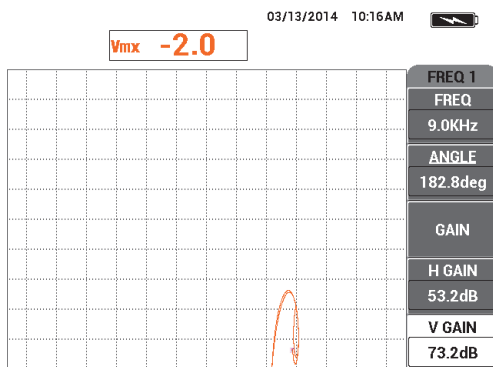

Figure 5-130 Checking the Mix signal
26. If necessary, press the ERASE key () to check the mix signal (see Figure 5-130 on page 218).